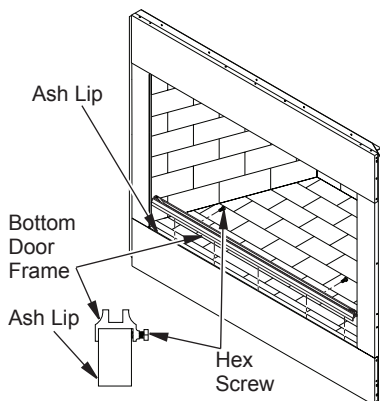

Figure 30 - Installing Bottom Door Frame
3. Place bottom door frame on top of ash lip at front of fireplace (see Figure 30).